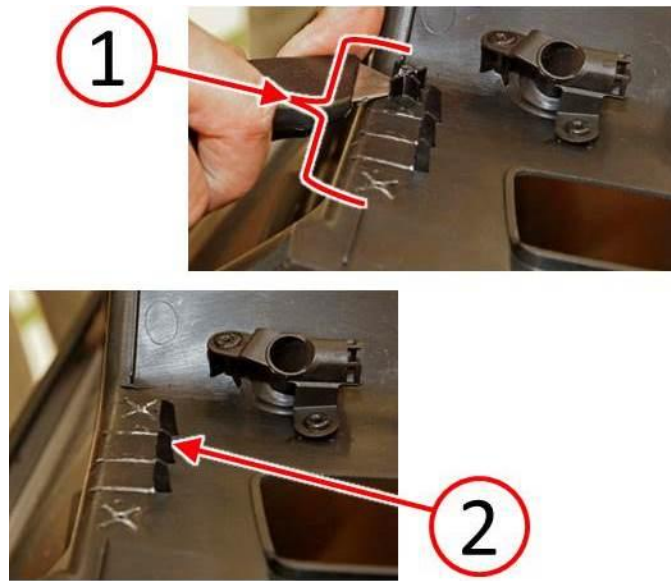

Fig. 19 Remove Alarm Sensor Spacer Ribs And Heat Stake Studs
44. Trim away the part of the two heat stake studs and three plastic alarm sensor support ribs (1) leaving only the tall shark fin portion (2) of the three ribs (Fig. 19).